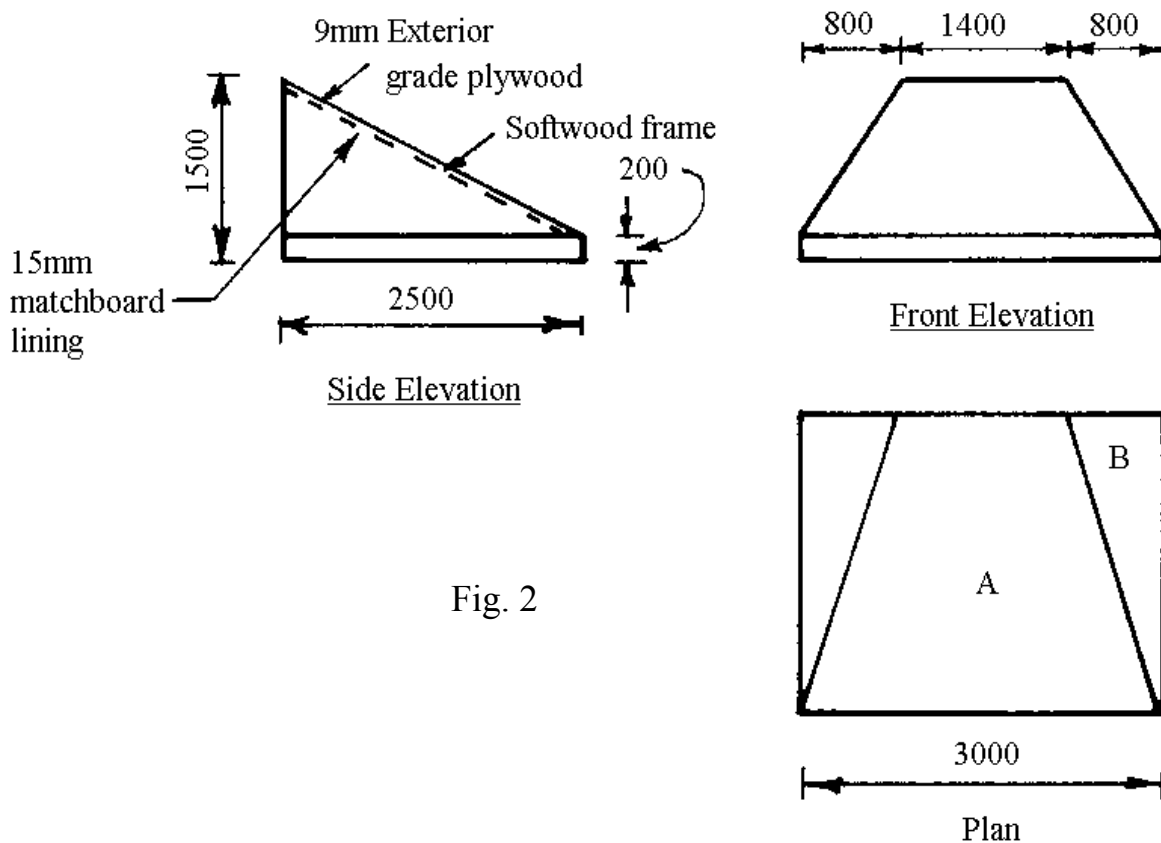

Fig. 2
- (a) Using the information contained in figure 2, describe with the aid of sketches